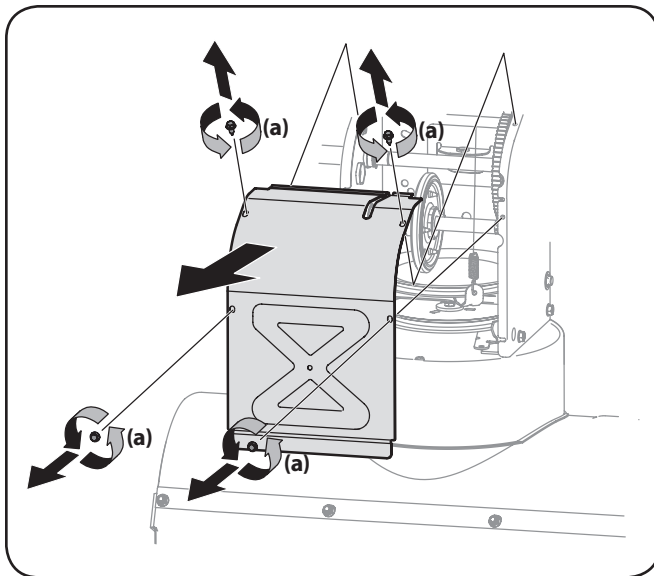

Figure 7-4
3. Remove the frame cover from the underside of the snow thrower by removing the self-tapping screws which secure it. Refer to Figure 7-4 on page 20.
6. Remove the frame cover from the underside of the snow thrower by removing the self-tapping screws (a) which secure it. See Figure 7-4.
3. Remove the frame cover from the underside of the snow thrower by removing four self-tapping screws which secure it. Refer to Figure 7-4.